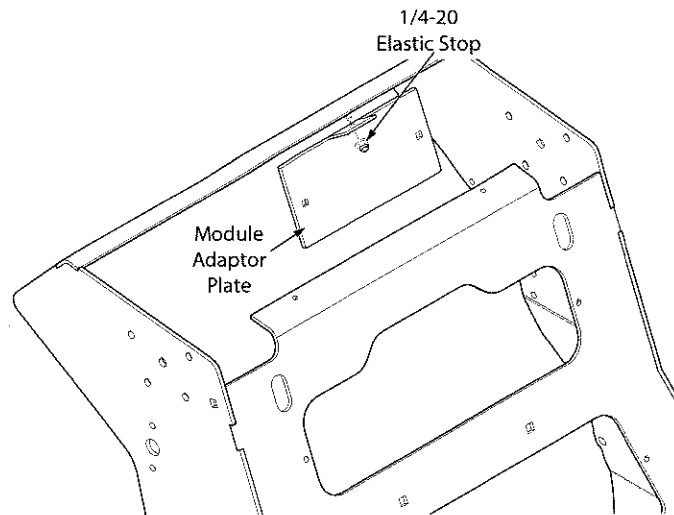

Figure 3. Install Module Adaptor Plate if Needed
14. On machines originally equipped with the nozzle control relays mounted under the instrument panel, install the module adaptor plate provided with this kit in place of the relay mounting bracket removed previously. Secure the module adaptor plate using the one (1) 1/4-20 flanged elastic stop nut removed in step number 4. See Figure 3.